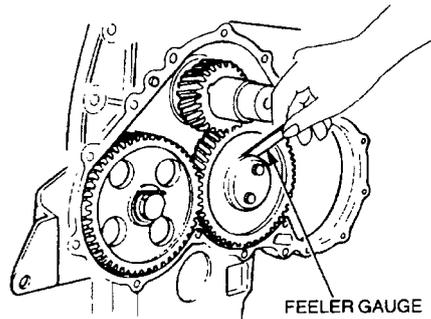

Figure 15 Checking the Idle Gear End-play
- (1) **Idle Gear End-play.** Measure the idle gear end-play with a feeler gauge (Figure 15) and check that is within the standard limits of 0.058 to 0.2 mm (0.002 to 0.008 in).